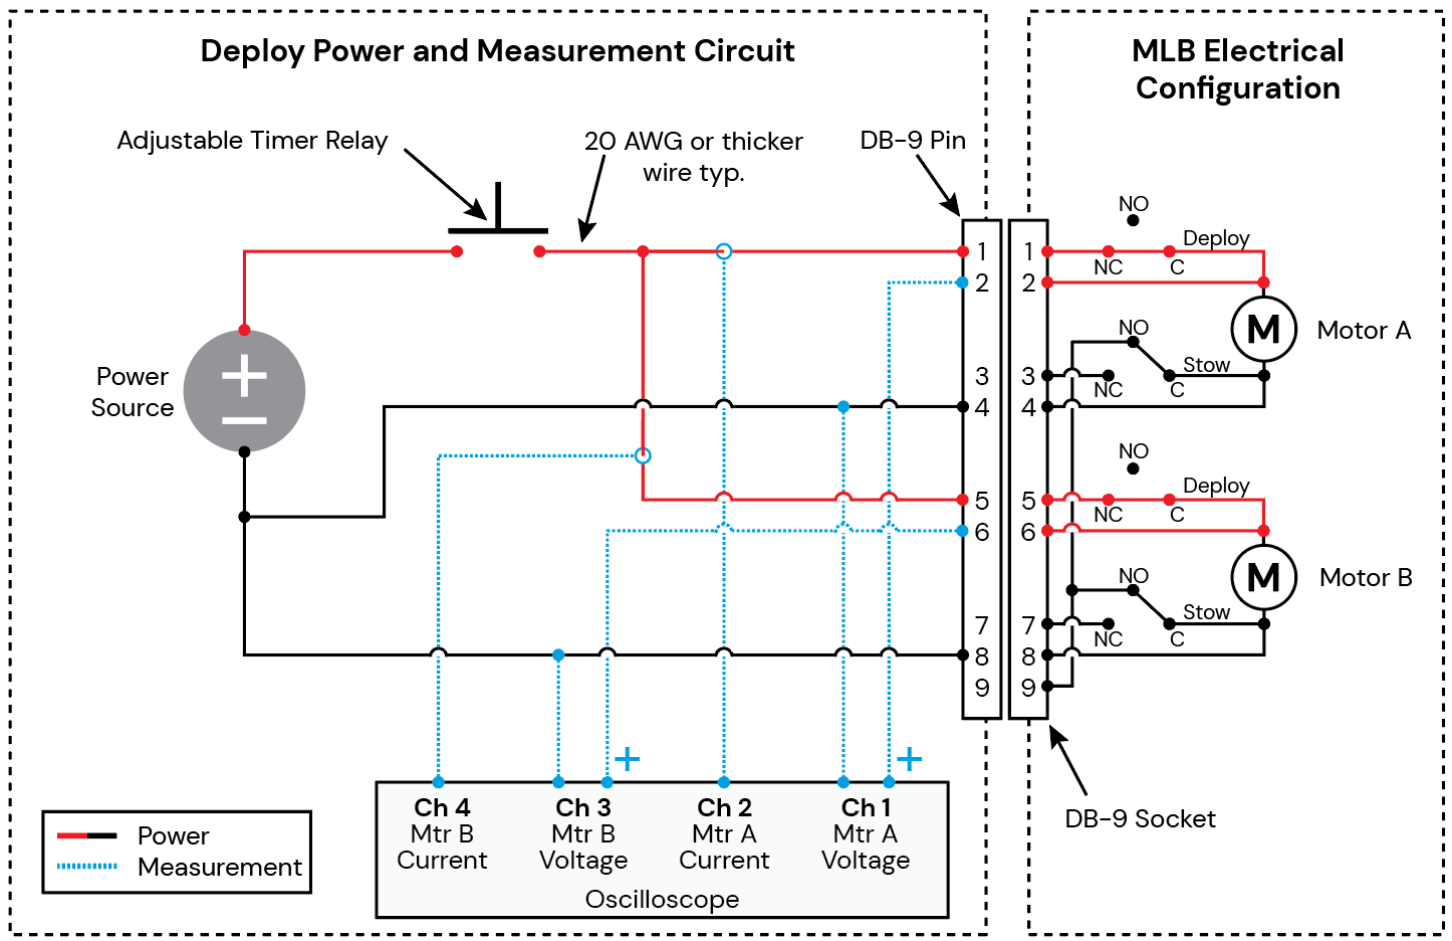

Figure 11-4: Deploy circuit
11.4.3	Verify the DE-9 pin connector of the Deploy Power and Measurement Circuit in Figure 11-4 is visibly clean. Any debris could detrimentally contaminate the Lightband's mating socket connector.
11.4.4	1) Ensure power source output is off. 2) Connect the Lightband to the Deploy Power and Measurement Circuit per Figure 11-4.